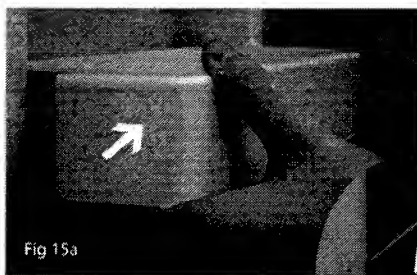

Fig 15a
- To remove for cleaning or repositioning, release from fixing supports by simply pulling the rack in the direction of the arrow shown (Fig 15a).